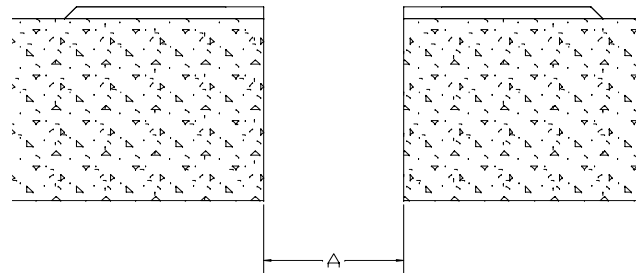

Figure 2
**STEP 3.** Prepare the blockout for the joint cover installation by applying grout, by others, to the blockout surface to a 1/4" minimum thickness to create a level bed for the joint cover base members installation (see Figure 2). Balco, Inc. recommends Five Star DP Epoxy Grout be used to create the level bed. Ensure that the grout is level.